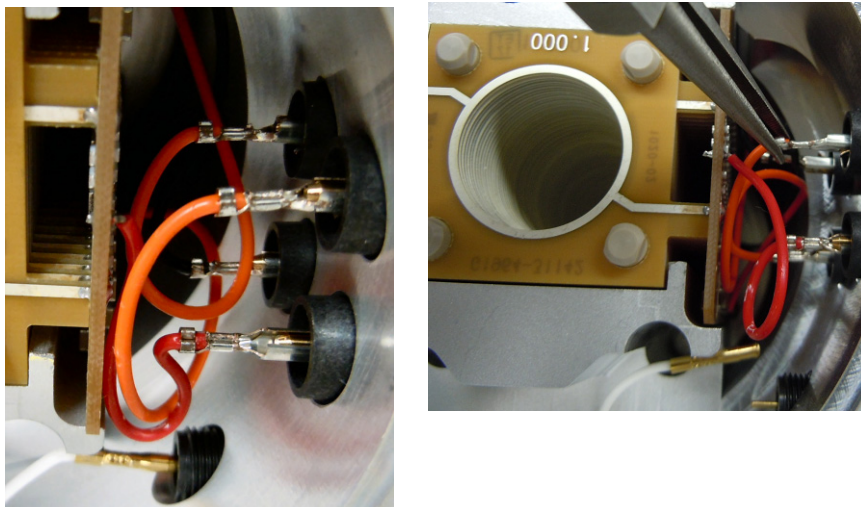

Figure 47 Five internal wires from the feed-through.
- 4 Disconnect the five internal wires from the feed-throughs. Use a **long-nose pliers**. See **Figure 47**.